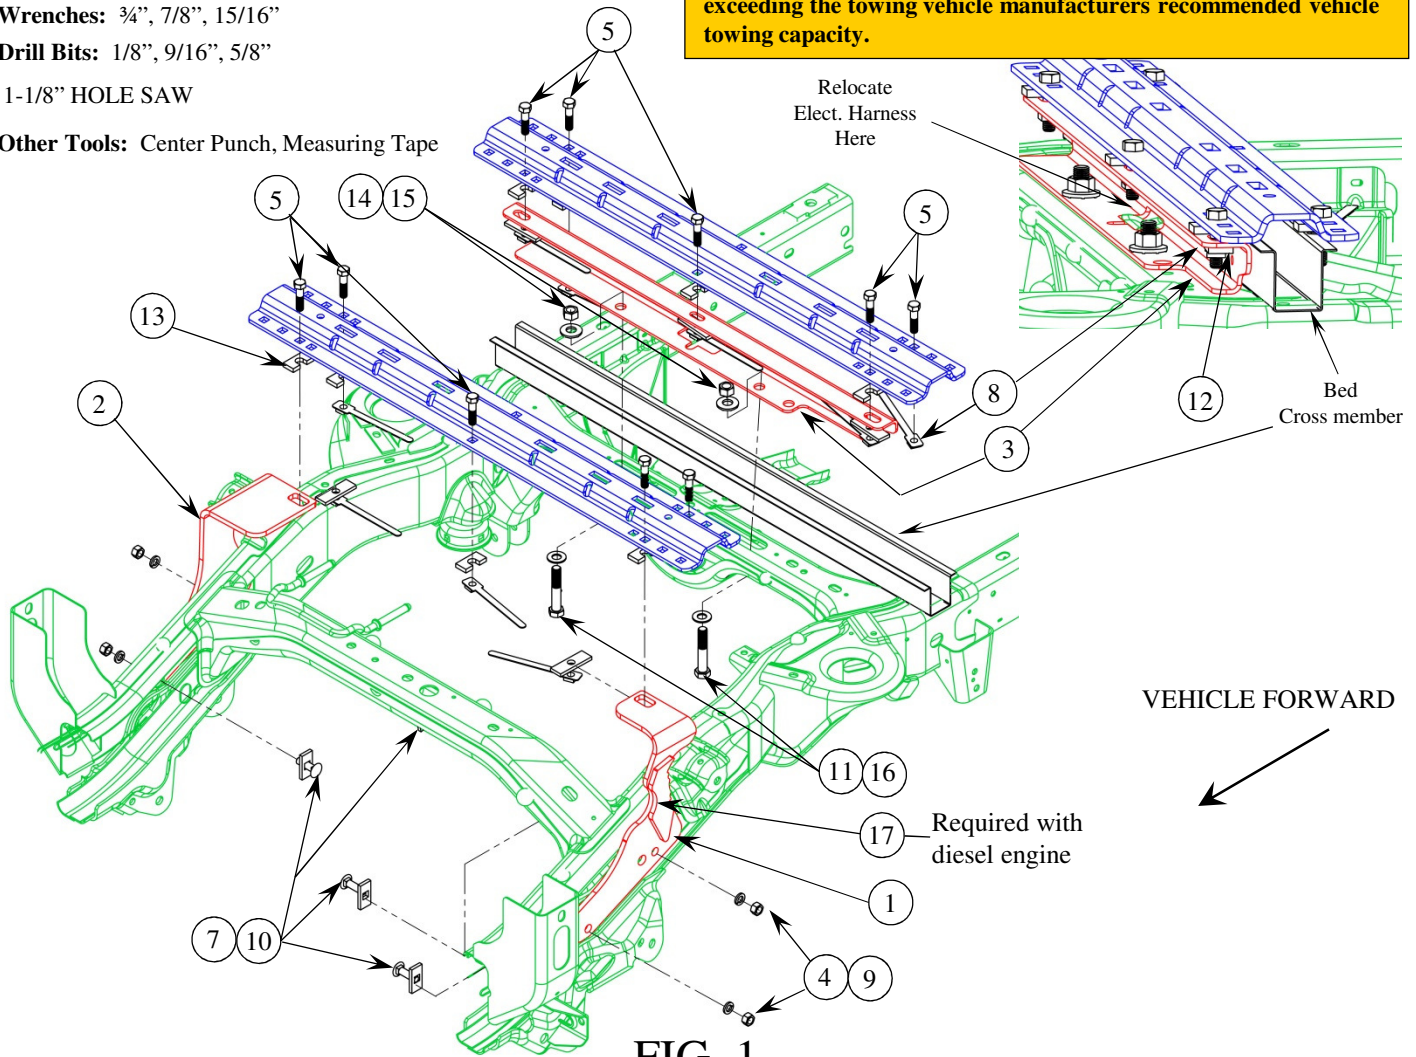

FIG. 1
13. Fasten the c-channel to the vehicle frame cross member as shown in Figure 1 using 5/8" hardware. Bolt up through the vehicle frame cross member.
14. Reposition the rear mounting rail over the holes in the bed and fasten the mounting rail to the c-channel using the supplied 1/2" hex bolts (as shown in figure 1). Use the supplied U-shaped spacer plates between the c-channel or mounting rails and the truck bed to ensure metal to metal contact.
18. Install edge protector onto curve section of driver's side bracket, next to fuel fill hose. Install the front frame rail brackets as shown in figure 1, use supplied U-shaped spacer plates. The brackets install ahead of the hat section that supports the bed. Use the 1/2" pull wire to pull the carriage bolts and square hole plates into the frame.